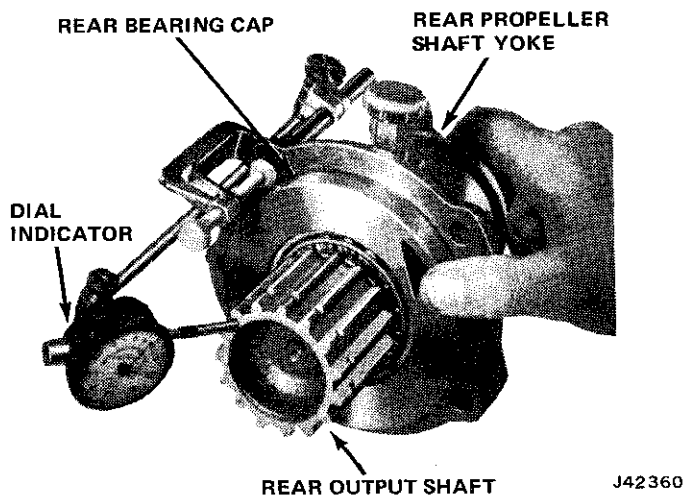

Fig. 2D-11 Measuring Rear Bearing Cap End Play
- (1) If removed, install speedometer driven gear bushing using Bushing Installer Tool J-25169.
- (2) Install front bearing cup in bore.
- (3) Install front bearing on shaft.
- (4) Install rear bearing cup in bore.
- (5) Install speedometer drive gear and shims on shaft.
- (6) Place output shaft in bearing cap and place end of output shaft on firm surface.
- (7) Place rear cone and roller on output shaft and drive bearing onto shaft and seat it against shims.
- (8) Install yoke seal using tool J-25132.
- (9) Install yoke, flat washer, and nut. Tighten nut to 140 foot-pounds (163 N•m) torque. Use tool J-8614-01 to hold yoke while tightening nut.
- (10) Clamp dial indicator onto bearing cap and position indicator against output shaft (fig. 2D-11).
- (11) Pry output shaft back and forth to check end play. End play should be 0.002 to 0.005 inch (0.05 to 0.12 mm).
- (12) If end play is excessive, it can be corrected by removing shims between speedometer drive gear and output shaft front bearing.
- (13) Place speedometer driven gear in bearing cap and install driven gear sleeve.